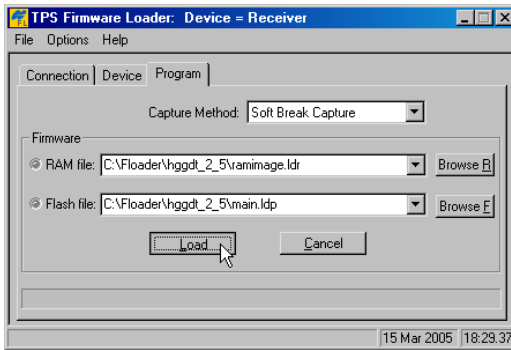

Figure 4-15. Program Tab Settings
2. Click the **Program** tab and set the *Capture Method* to “Soft Break Capture” (recommended) (Figure 4-15).
3. Browse for and select the receiver board’s RAM file and Flash file (Figure 4-15).